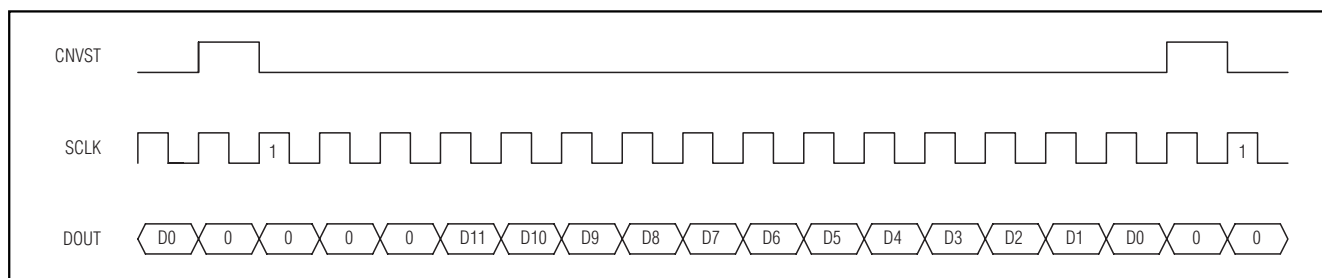
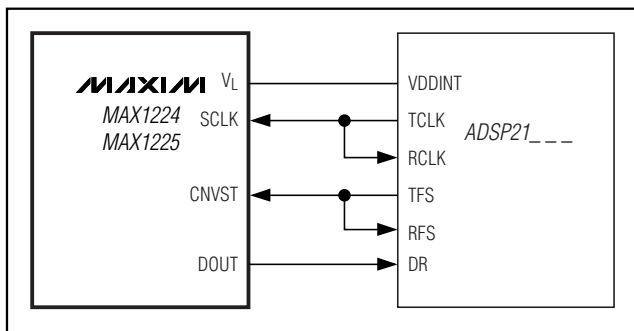

Figure 17. DSP Interface—Continuous Conversion
Figure 19. Interfacing to the ADSP21_—
The MAX1224/MAX1225 can also be connected to the TMS320C54_ by using the data transmit (DX) pin to drive CNVST and the CLKX generated internally to drive SCLK. A pullup resistor is required on the CNVST signal to keep it high when DX goes high impedance and 0001hex should be written to the DXR continuously for continuous conversions. The power-down modes may be entered by writing 00FFhex to the DXR (see Figures 17 and 18).
The MAX1224/MAX1225 can be directly connected to the ADSP21_ _ _ family of DSPs from Analog Devices, Inc. Figure 19 shows the direct connection of the MAX1224/MAX1225 to the ADSP21_ _ _. There are two modes of operation that can be programmed to interface with the MAX1224/MAX1225. For continuous conversions, idle CNVST low and pulse it high for one clock cycle during the LSB of the previous transmitted word. The ADSP21_ _ _ STCTL and SRCTL registers should be configured for early framing (LAFR = 0) and for an active-high frame (LTFS = 0, LRFS = 0) signal. In this mode, the data-independent frame-sync bit (DITFS = 1) can be selected to eliminate the need for writing to the transmit-data register more than once. For single conversions, idle CNVST high and pulse it low for the entire conversion. The ADSP21_ _ _ STCTL and SRCTL registers should be configured for late framing (LAFR = 1) and for an active-low frame (LTFS = 1, LRFS = 1) signal. This is also the best way to enter the power-down modes by setting the word length to 8 bits (SLEN = 1001). Connect the V_L pin to the ADSP21_ _ _ supply voltage when the MAX1224/MAX1225 are operating with a supply voltage higher than the DSP supply voltage (see Figures 17 and 18).